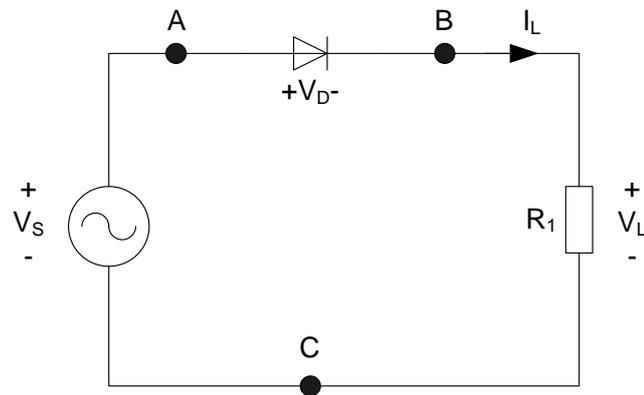

Figure 1: Half wave rectifier circuit
- Build and connect up the half-wave rectifier circuit as shown in Figure 1, where $R_1 = 10\text{k}\Omega$. Switch on the scope, and prior to making any connections, use the AUTO SET button to initialize both channels.
- **Questions:** Based on your observations from this Section (3.1), explain why the circuit you constructed performs *half wave* rectification? Explain what would happen if you placed a capacitor in parallel with the resistor R_1 in Figure 1. What does the waveform look like now? Draw it in your lab handbook.
- Because the earth of both the oscilloscope and Function Generator are not isolated, scope measurements for the circuits of Figures 1 and 2 are not possible using the known conventional techniques. Thus, the scope has to be set up to function in differential mode. A consequence of this set up is that you will only be able to use the scope to measure one waveform, which in this case will be the output of the circuits. Therefore, make sure you have set up your input waveform correctly before making the following adjustments to the way the scope operates.